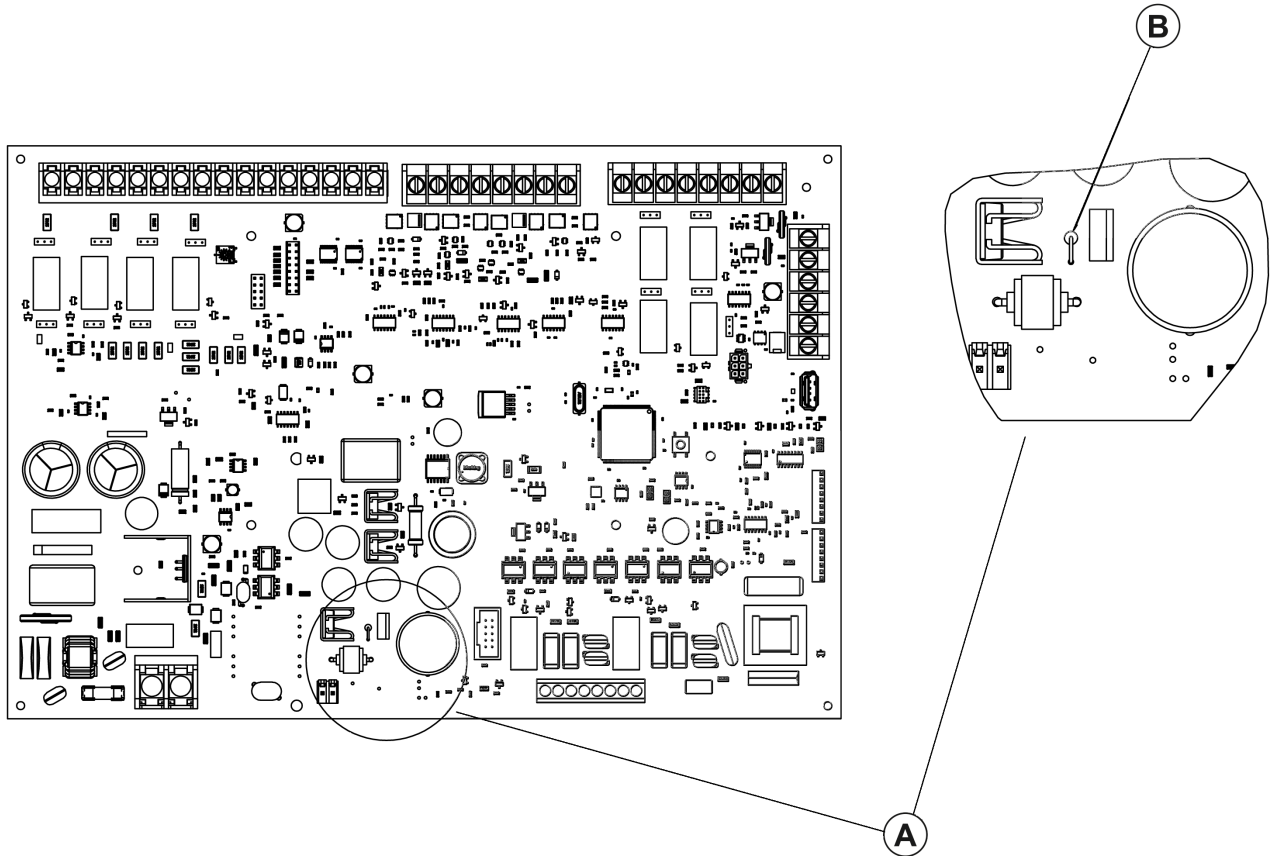

Figure 10: Depleted battery cutout
1. Remove the resistor from the system board as shown in Figure 10.
Removing the resistor as shown in Figure 10 and selecting the **Depleted Battery Cutout** option configures the system to de-energize when AC power is lost, and the battery power is depleted.